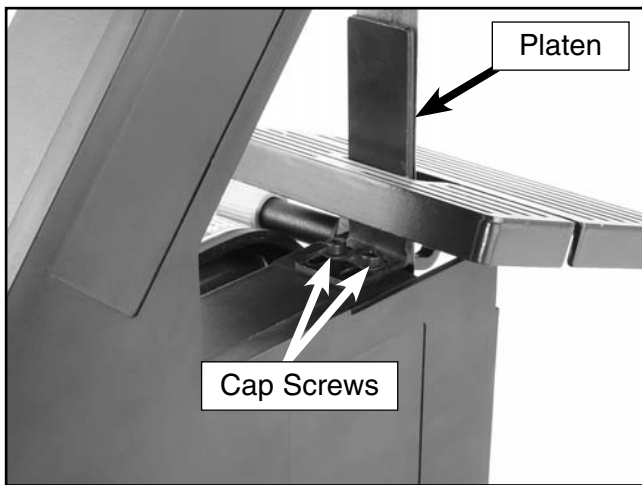

Figure 21. Platen and cap screws.
2. Loosen the table lock lever and tilt the table forward for access to the platen cap screws shown in **Figure 21**.